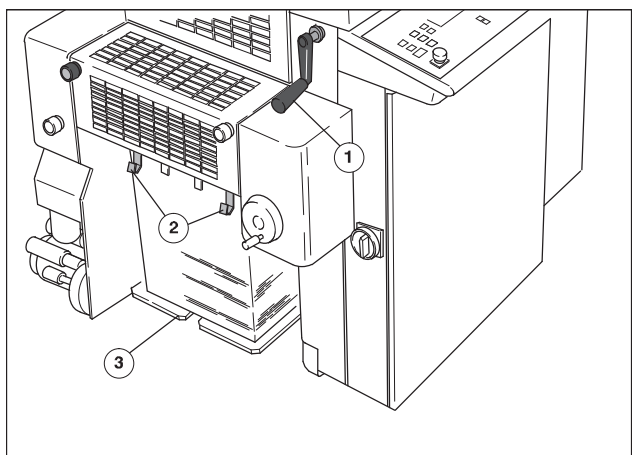

Fig. 8 Delivery pile
1. Raise the front sheet stops (Fig. 8/2).
2. Move the full delivery pile carriage (Fig. 8/3) out of the delivery.
3. Move an empty pile carriage into the delivery and raise with the crank handle (Fig. 8/1).
4. Fold down the front sheet stops (Fig. 8/2).